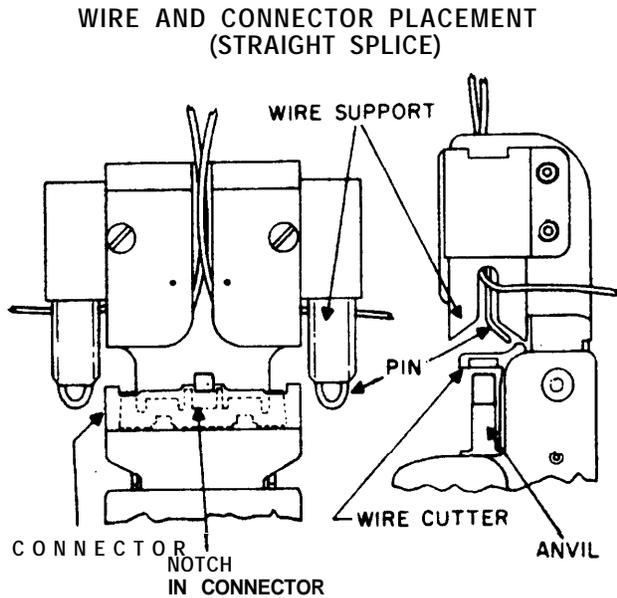

Figure 6. Placing Wires in VS-3 Tool for Straight Splice Operation.
3.06 With the wires properly placed, insert the connector into the tool. Notice the slot in the center of the connector. When you insert the connector into the tool, make sure the wire cutter in the tool engages the slot in the connector. Make sure the connector lies flat against the anvil. See Figure 6.